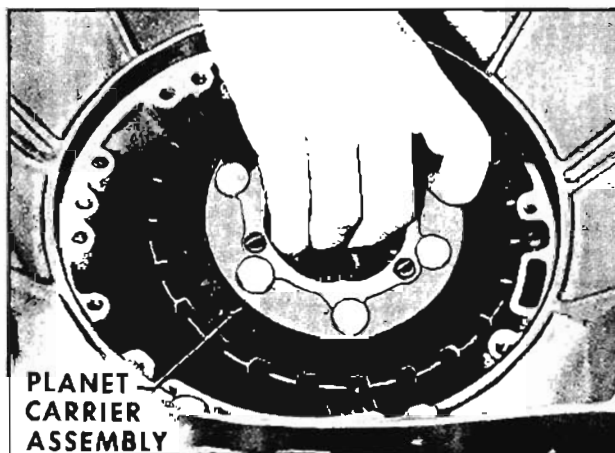

Fig. 6-428 Installing Planet Carrier
3. Install planetary gear set into case. (Fig. 6-428)